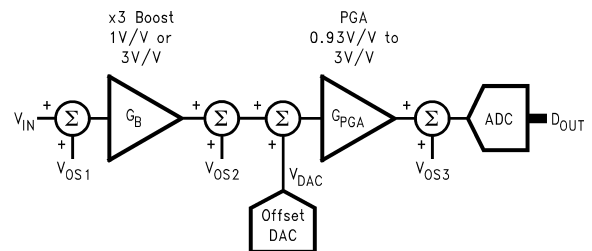

FIGURE 9. Internal Offset Mode
Figure 9 is a model of the LM9810/20's internal offsets. Equation (5) shows how to calculate the expected output code given the input voltage (V_{IN}), the LM9810/20 internal offsets (V_{OS1} , V_{OS2} , V_{OS3}), the programmed offset DAC voltage (V_{DAC}), the programmed gains (G_{B} , G_{PGA}) and the analog channel gain constant C.